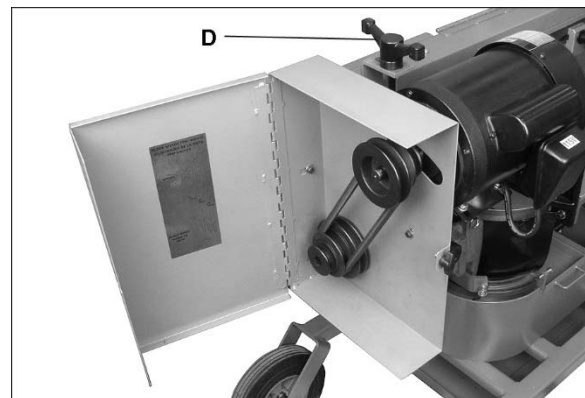

Figure 7-2: blade speed adjustment
3. Open pulley box and turn handle (D, Figure 7-2) counterclockwise to release tension on drive belt.